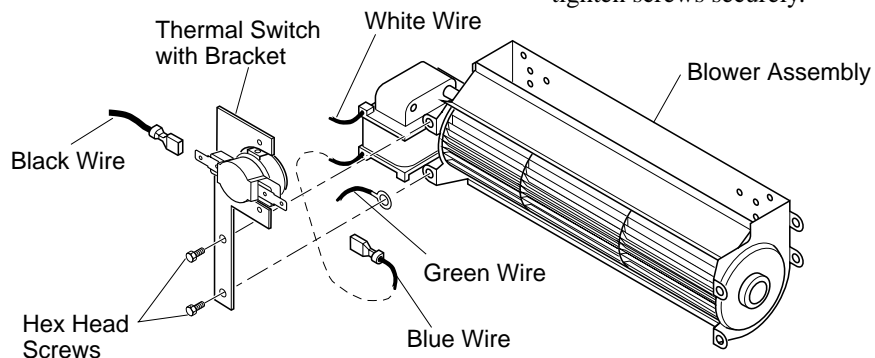

Figure 28 - Attaching Thermal Switch to DA3610TA Thermostatically-Controlled Blower Accessory
1. Remove the two hex head screws on the blower assembly as shown in Figure 28.